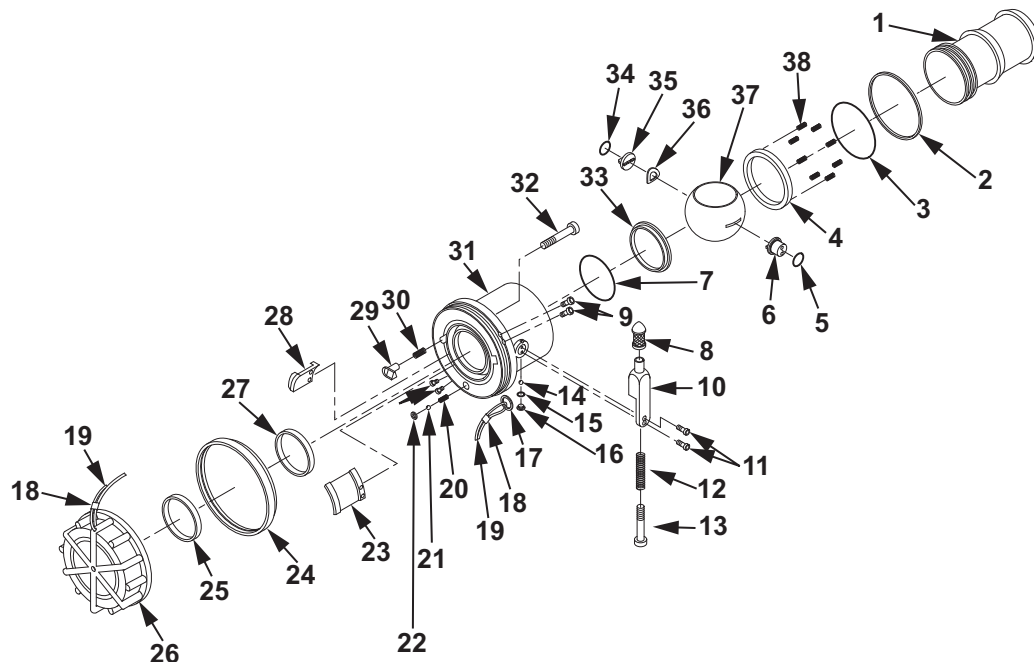

Figure 1. Valved Dry-Break Coupling Disassembly.
1. Using a torque wrench and screwdriver bit, check running torque of screw (Figure 1, Item 16). If running torque is less than 3.5 in. lb (0.45 N•m), discard screw (Figure 1, Item 16).
2. Hold coupling with screw hole toward cleaning cloth and rotate inlet fitting to allow ball bearings (Figure 1, Item 14) to fall onto the cleaning cloth.
Keep inlet hole in the up position when removing screw (Figure 1, Item 16) to prevent loss of ball bearings (Figure 1, Item 14) inside coupling (Figure 1, Item 31).
3. Remove screw (Figure 1, Item 16) from coupling (Figure 1, Item 31).
4. Remove O-ring (Figure 1, Item 15) from screw (Figure 1, Item 16). Discard O-ring (Figure 1, Item 15).
Ensure all 41 ball bearings (Figure 1, Item 14) are accounted for during disassembly.
5. Remove inlet adapter (Figure 1, Item 1) from coupling (Figure 1, Item 31).
6. Remove seal (Figure 1, Item 4) from inlet adapter (Figure 1, Item 1). Discard seal (Figure 1, Item 4).
7. Remove eight springs (Figure 1, Item 38) from inlet adapter (Figure 1, Item 1).
8. Remove O-ring (Figure 1, Item 3) from inside groove of inlet adapter (Figure 1, Item 1). Discard O-ring (Figure 1, Item 3).
9. Remove O-ring (Figure 1, Item 2) from outer groove of inlet adapter (Figure 1, Item 1). Discard O-ring (Figure 1, Item 2).
10. Rotate ball valve (Figure 1, Item 37) to the closed position and remove from inside coupling (Figure 1, Item 31).
11. Remove spring washer (Figure 1, Item 36), stop pin (Figure 1, Item 35) and O-ring (Figure 1, Item 34) from inside coupling (Figure 1, Item 31). Discard O-ring (Figure 1, Item 34).
12. Remove seal (Figure 1, Item 33) from coupling (Figure 1, Item 31). Discard seal (Figure 1, Item 33).
13. Remove O-ring (Figure 1, Item 7) from coupling (Figure 1, Item 31). Discard O-ring (Figure 1, Item 7).
14. Remove two screws (Figure 1, Item 11) from control arm (Figure 1, Item 10).
15. Remove control arm (Figure 1, Item 10) from coupling (Figure 1, Item 31).
If it is necessary to disassemble control arm (Figure 1, Item 10), perform the following steps.
- a. Remove screw (Figure 1, Item 13) from control arm (Figure 1, Item 10).
- b. Remove spring (Figure 1, Item 12) from control arm (Figure 1, Item 10).
- c. Remove knob (Figure 1, Item 8) from control arm (Figure 1, Item 10).
16. Remove control arm shaft (Figure 1, Item 6) and O-ring (Figure 1, Item 5) from inside coupling (Figure 1, Item 31). Discard O-ring (Figure 1, Item 5).
17. Remove seal (Figure 1, Item 27) from coupling (Figure 1, Item 31) interface. Discard seal (Figure 1, Item 27).
If it is necessary to replace dust cap (Figure 1, Item 26), perform the following removal steps.
18. Remove dust cap (Figure 1, Item 26) from coupling (Figure 1, Item 31).
19. Cut cable (Figure 1, Item 19) or remove split ring (Figure 1, Item 17) from coupling (Figure 1, Item 31) and cable (Figure 1, Item 19).
20. Cut cable (Figure 1, Item 19) from dust cap (Figure 1, Item 26).
21. Remove cable (Figure 1, Item 19) and sleeve (Figure 1, Item 18).
22. Remove seal (Figure 1, Item 25) from dust cap (Figure 1, Item 26). Discard seal (Figure 1, Item 25).
If it is necessary to replace bumper (Figure 1, Item 24) or lugs (Figure 1, Item 23, 28), perform the following steps.